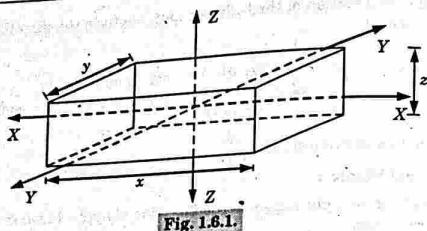

Fig. 1.6.1.
- Consider a rectangular block of dimensions x, y and z subjected to three direct tensile stresses along three mutually perpendicular axis as shown in Fig. 1.6.1.